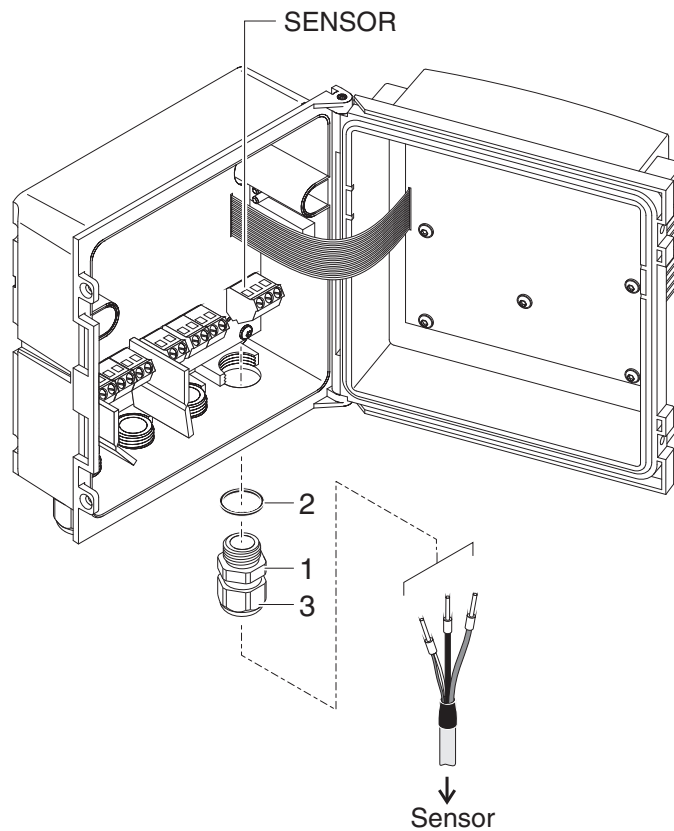

Fig. 3-1 Connect the cable (example DIQ/S 181)
2	Screw the cable gland (no. 029 212, pos. 1 in Fig. 3-1) with the sealing (pos. 2) into the enclosure at the mounting position for the SENSOR connection (see label on the bottom of the enclosure)
3	Loosen the cap nut (pos. 3 in Fig. 3-1).
| 6 | Tighten the cap nut (pos. 3 in Fig. 3-1). |